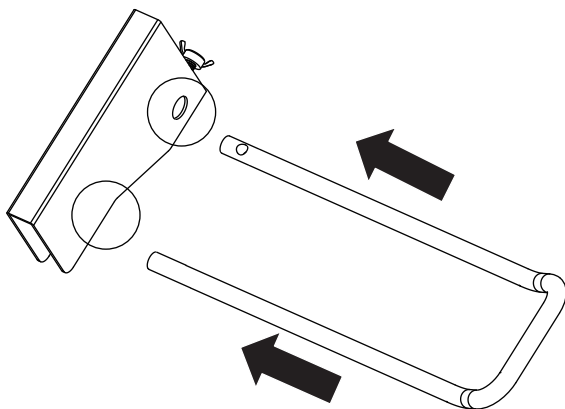

Figure 5
- 3) Attach the extension bar with the brace as shown in Fig. 5. Insert one end of the rail into the hole of the brace, the other end into the notch of the brace.